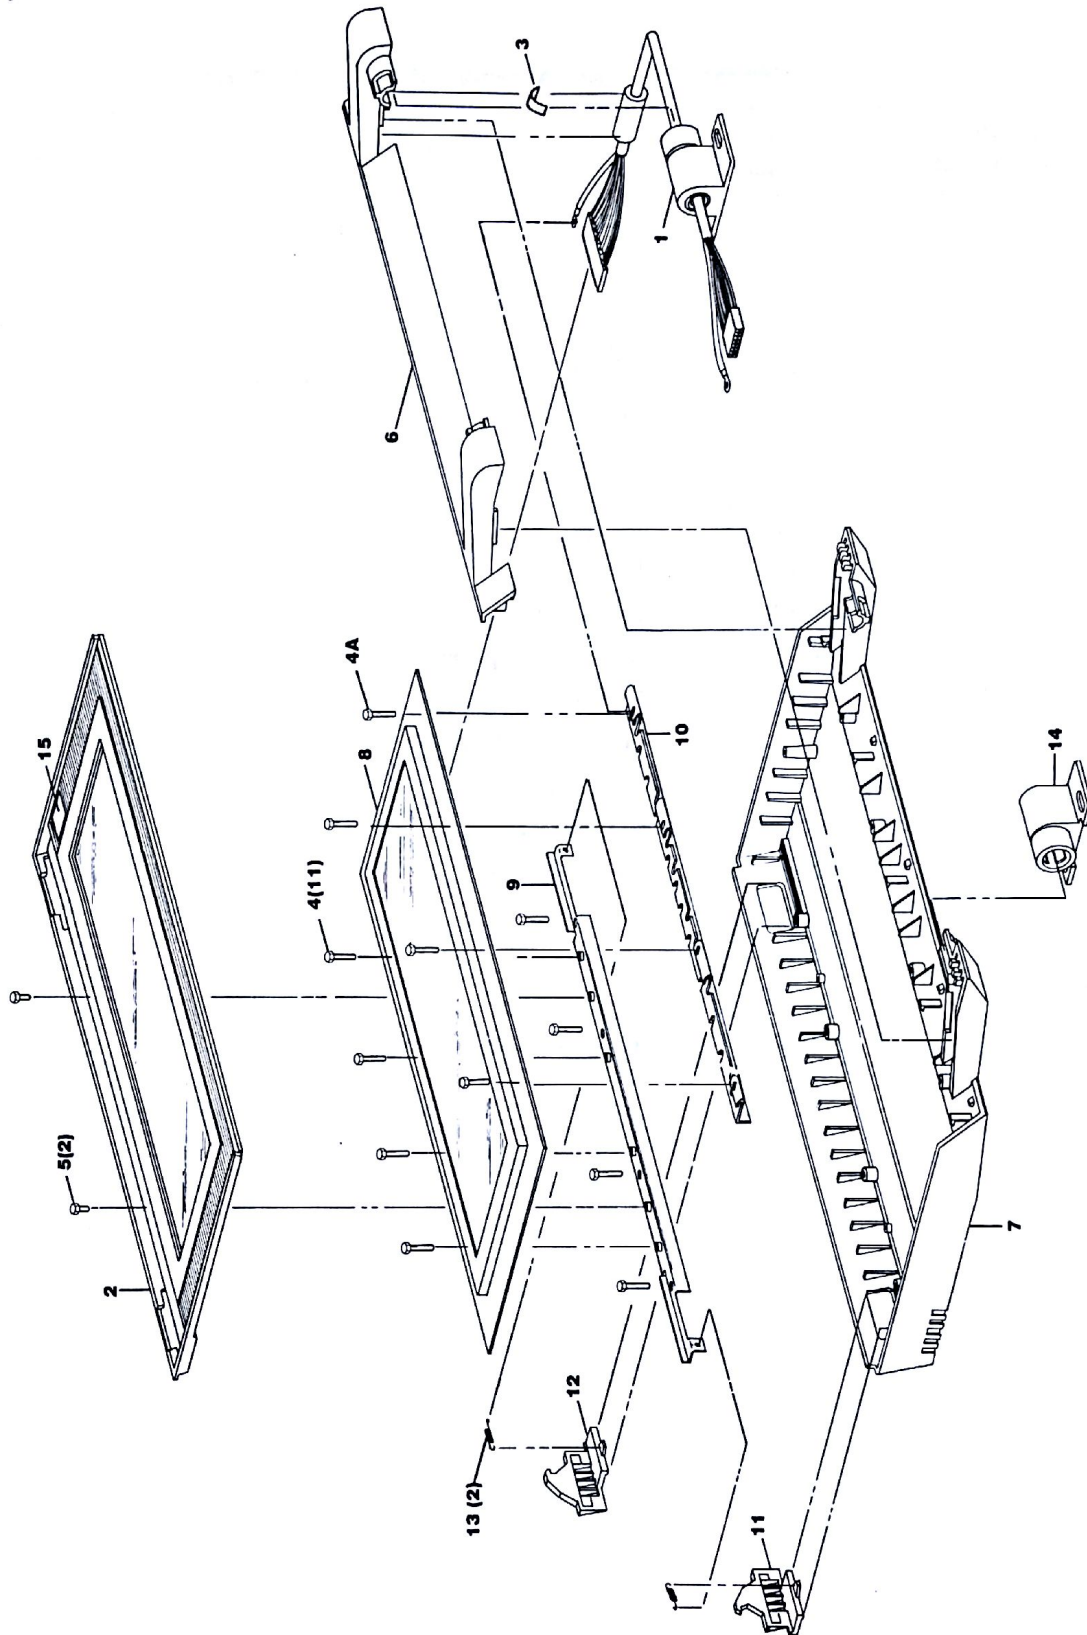

Figure 9-3. Display Assembly Exploded View
- Display assembly (figure 9-3, table 9-3).